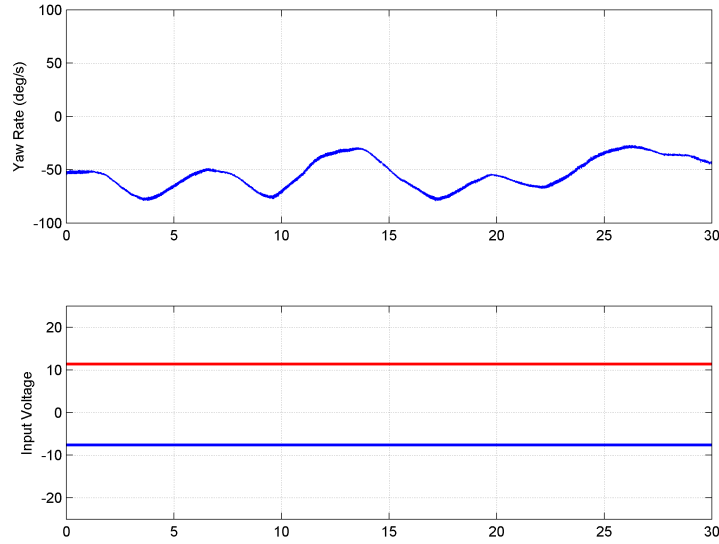

Figure 5.24: Identifying the viscous damping about the yaw axis
4. In the *Scopes* subsystem, double-click on the *theta (deg)*, *psi (deg)*, and *Vm_Actual (V)* sinks. In the *theta (deg)* scope, the desired pitch position is the yellow line, the measured pitch position is the purple plot, and the simulated pitch position is light blue trace. Similarly for the yaw *psi (deg)* scope. The *Vm_actual (V)* scope plots the voltage being applied to the pitch motor in yellow and yaw motor in purple.
5. To identify the viscous rotary friction parameter in the yaw axis a voltage step command must be applied to the yaw motor. In the *Desired Voltage* subsystem, set the *Signal Generator: Yaw (V)* block to 2.5.
6. Change the control switch to 4. The yaw input motor voltage is now the control voltage used to stabilize the yaw angle, $u_{lqr,y}^*$, added to the commanded open-loop voltage, i.e. $V_{m,p} = u_{lqr,y}^* + 2.5$. The plot should resemble Figure 5.24.